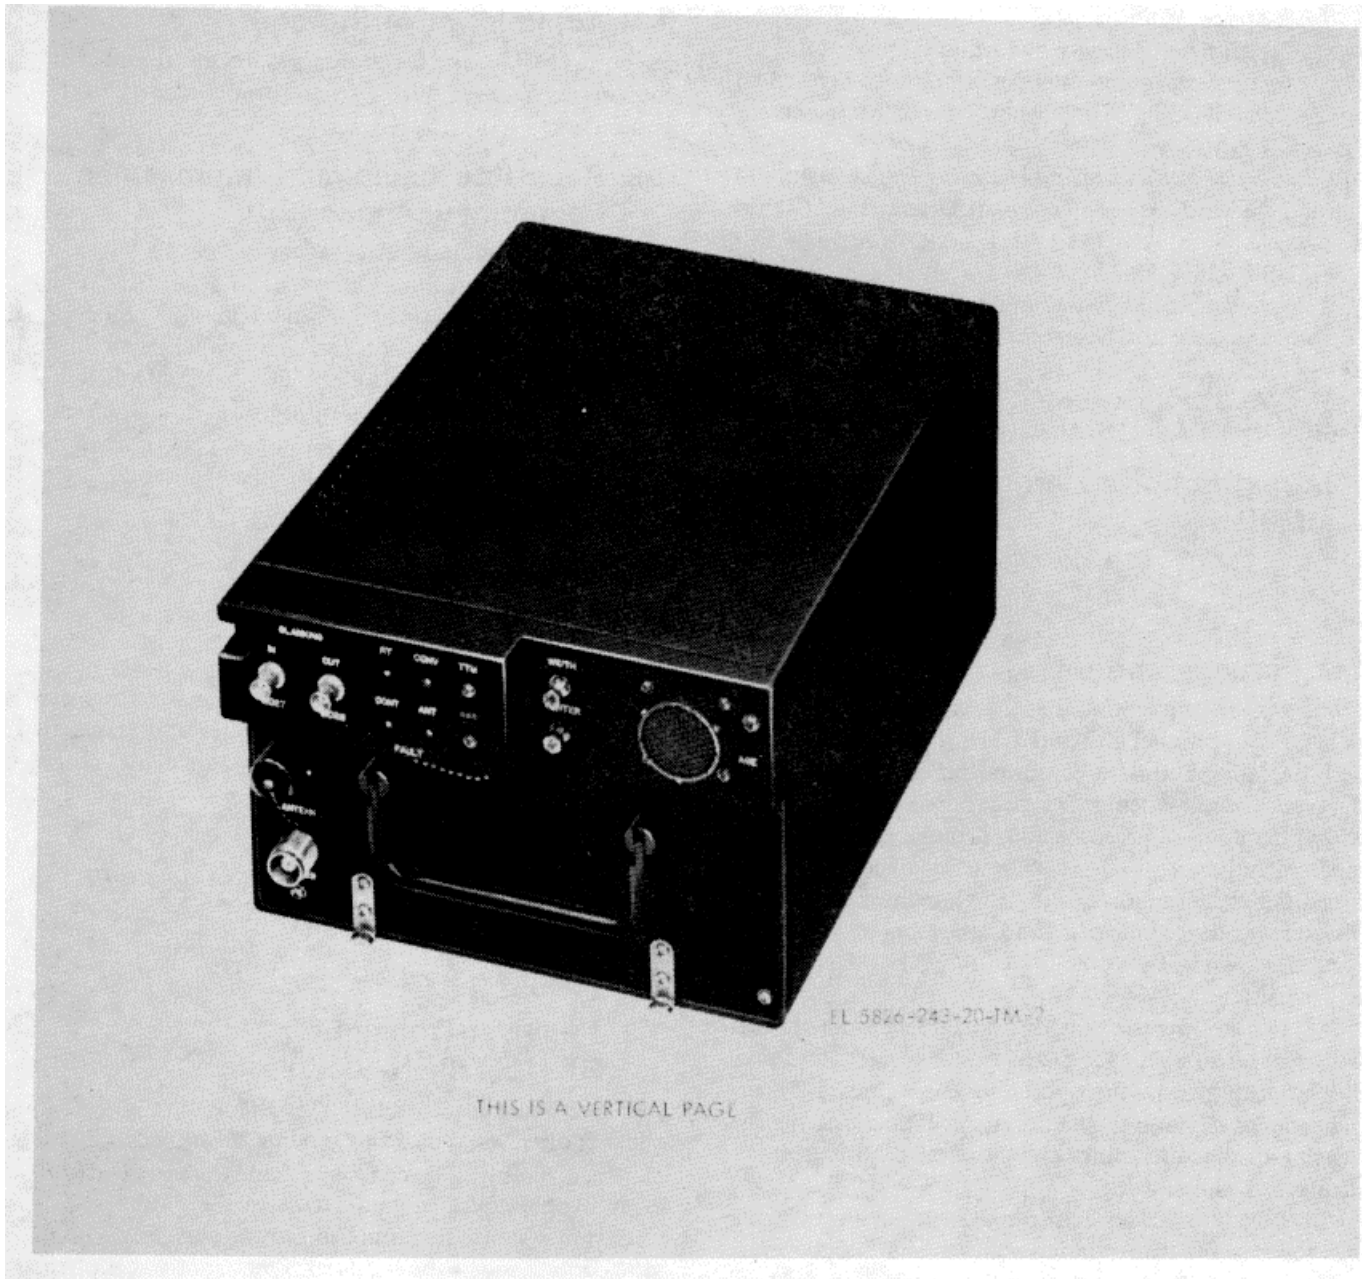
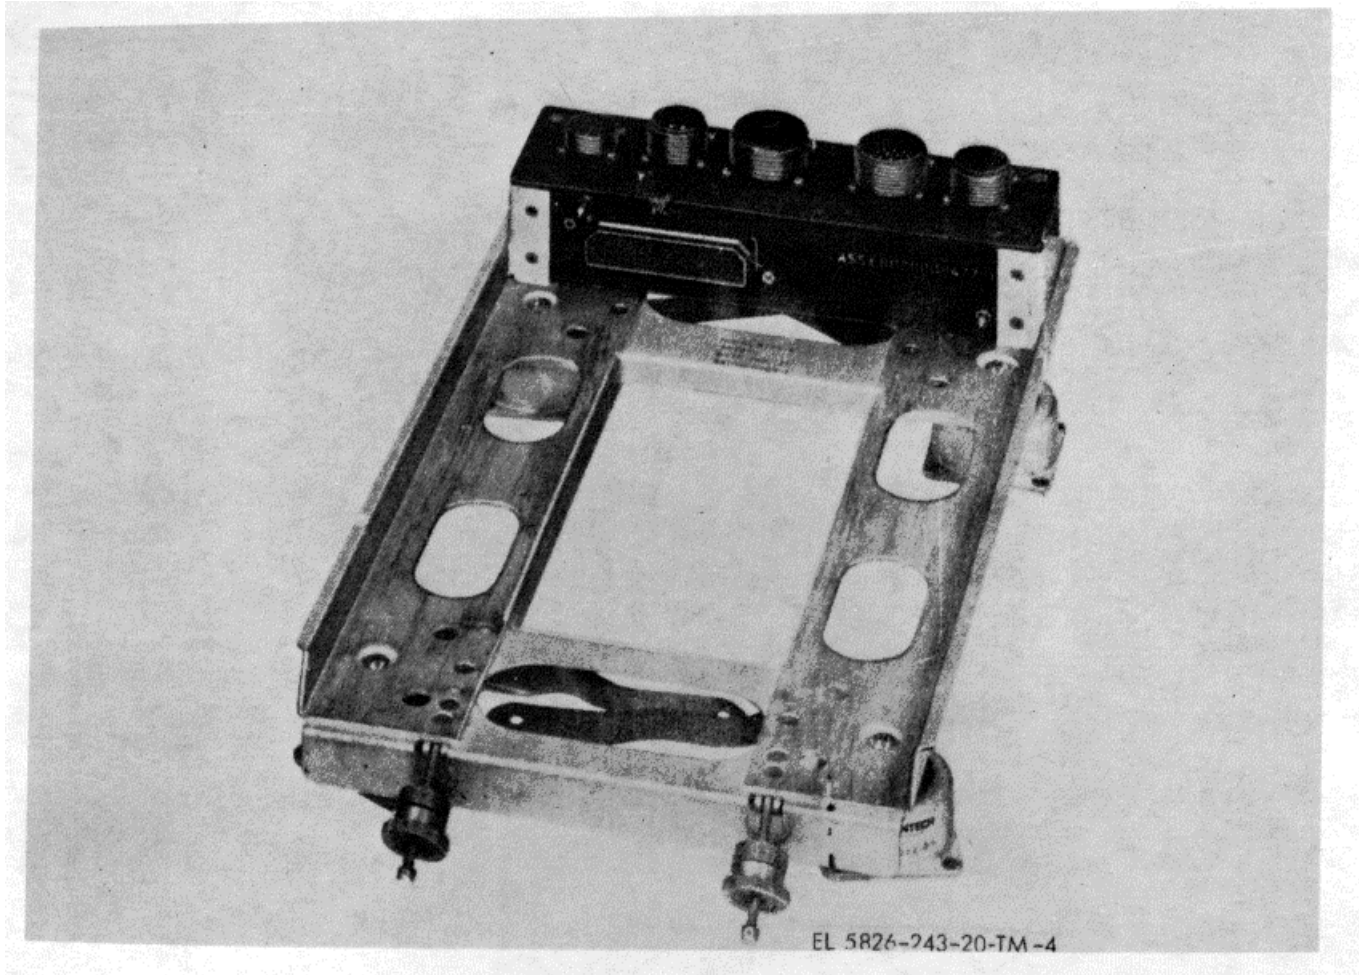

Figure 1-2. Receiver-Transmitter RT-1057/ARN-103(V).
Figure 1-4. Base. Shock Mount. Electrical Equipment MT-4411/ARN-103(V).
**1-8. Receiver-Transmitter** RT -1057/ARN-103(V) Receiver-Transmitter RT-1057/ARN-103(V) (fig. 1-2) consists of eleven removable modules inclosed within the chassis assembly. The chassis assembly is provided with a removable cover to gain access to the modules. The chassis also contains a plug-in blower assembly to provide cooling air to the modules. The front panel of the receiver-transmitter contains a TTM (total time meter), four FAULT status indicators, an ANTENNA connector, two BLANKING (IN and OUT) connectors, and a FUSE. The course adjustments (WIDTH and CENTER) controls, AGE connector, and a spare fuse are contained behind a removable cover plate. The rear of the chassis contains an electrical connector for mating with Converter, Signal Data CV-2924(P)/ARN-103(V). The receiver-transmitter and converter are mounted on Base, Shock Mount, Electrical Equipment MT-4411/ARN-103(V) (fig. 1-4).
Base, Shock Mount, Electrical Equipment MT-4411/ ARN-103(VI (fig. 1-4) is an aluminum Barry shock mount that provides a firm shock resistant mounting installation for the receiver transmitter and the converter. Two self-locking fasteners secure the